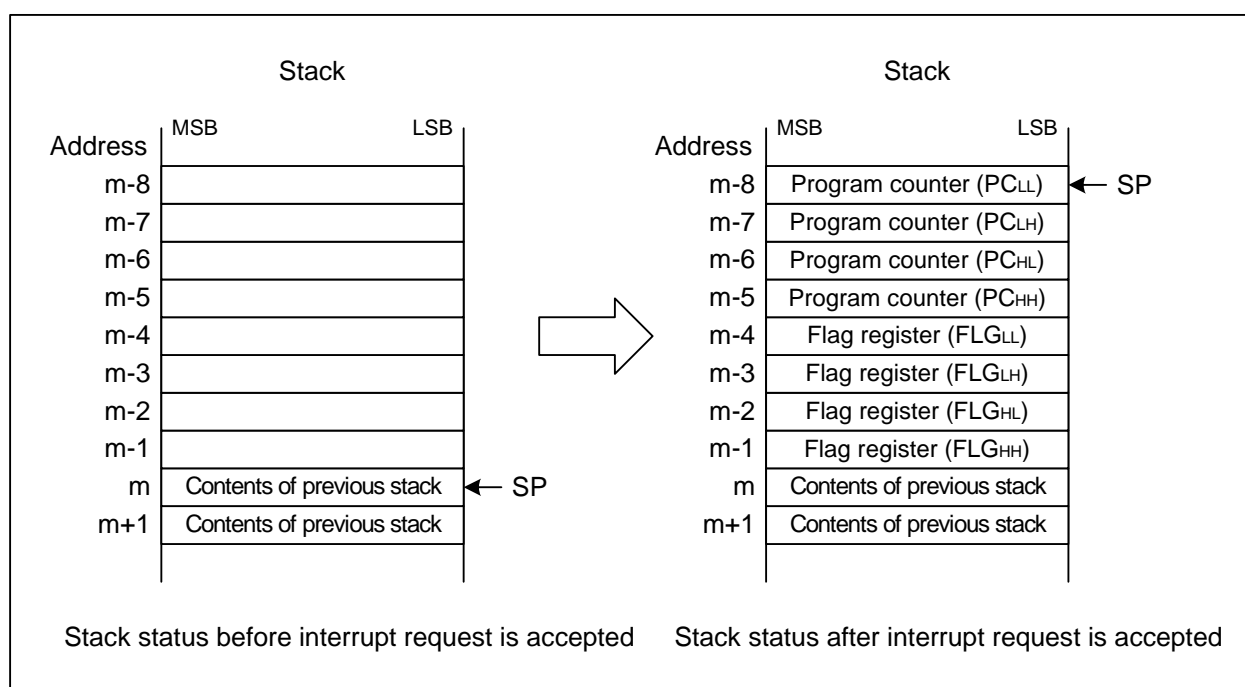

Figure 11.7 Stack Status Before and After an interrupt Request is Accepted
In the interrupt sequence, the flag register (FLG) and program counter (PC) values are saved to the stack, in that order. Figure 11.7 shows the stack status before and after an interrupt request is accepted.